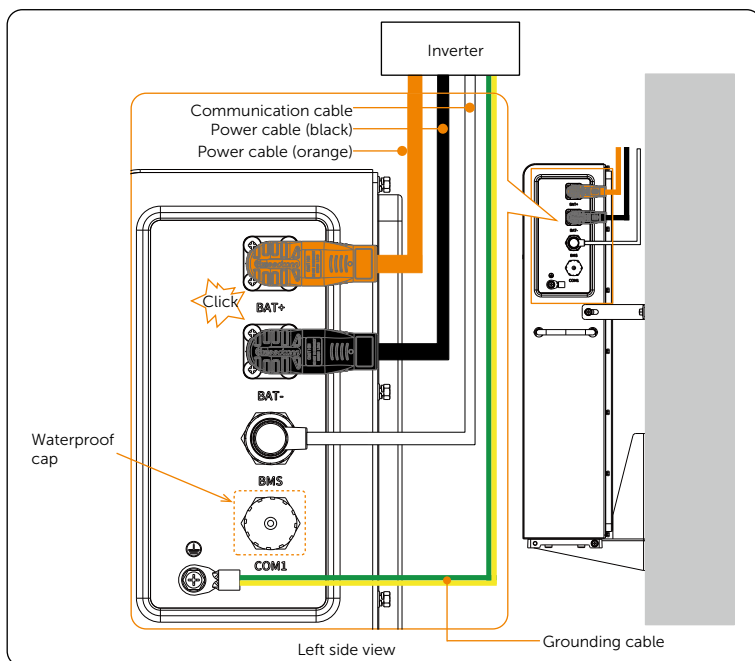

Figure 7-21 Cable connection of the left electrical connection area
- Make sure that power cables and communication cable are wired correctly, as shown in Figure 7-21. Failing to do so may cause severe damage to your battery pack.